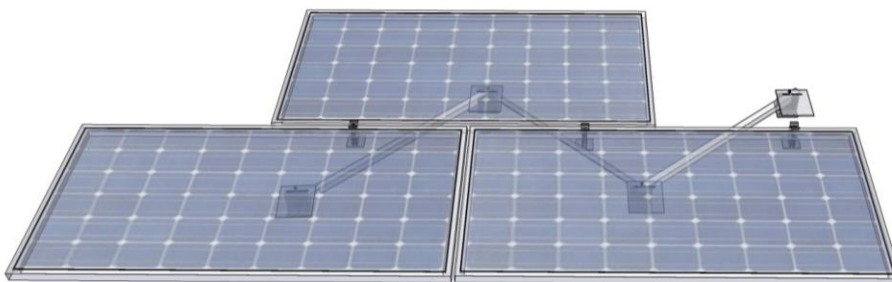

Fig. 5
- The notched rails therefore allow the trunk cable to be tied off in landscape and even aid in laying out the array (Fig 5).